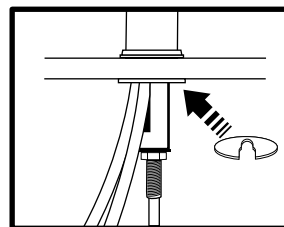

Figure 6
3. Center the faucet and slip "C" disc between the white spacer and the bottom of the counter or sink. Tighten the stem nut with a wrench until it is tight (Figure 6).